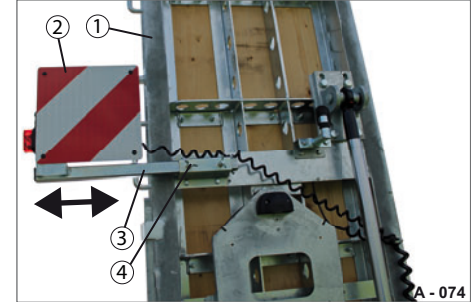

Fig. 90 Warning panel at rear
- Loosen the wing nuts (Fig. 90/4).
- Position the rod (Fig. 90/3) with the warning panel (Fig. 90/2) to the required position.
- Tighten the wing nuts (Fig. 90/4).